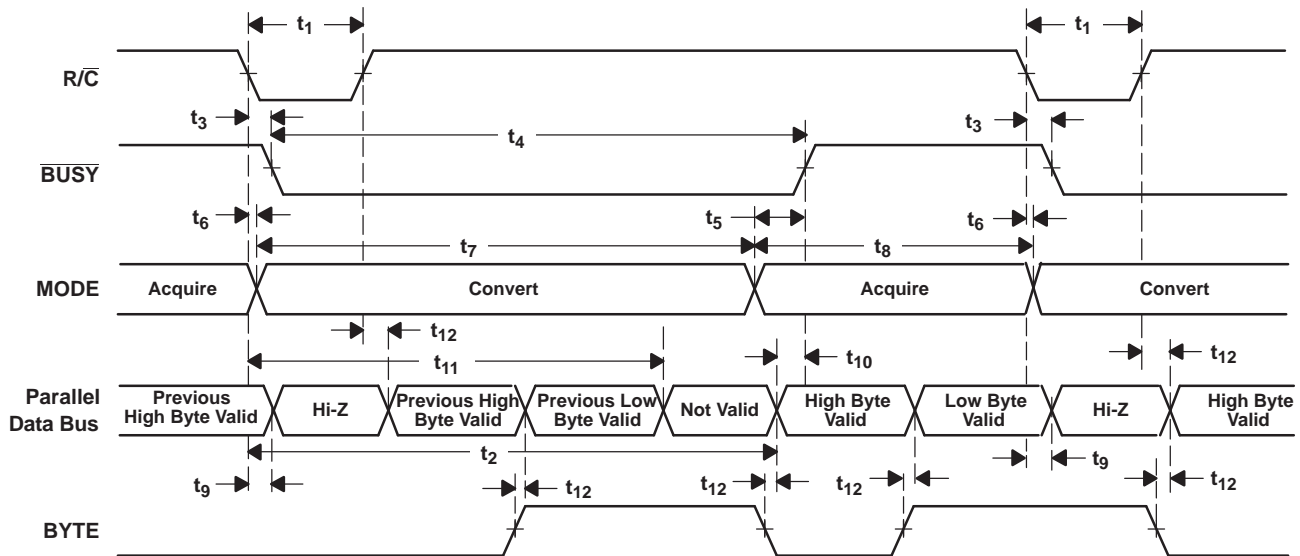
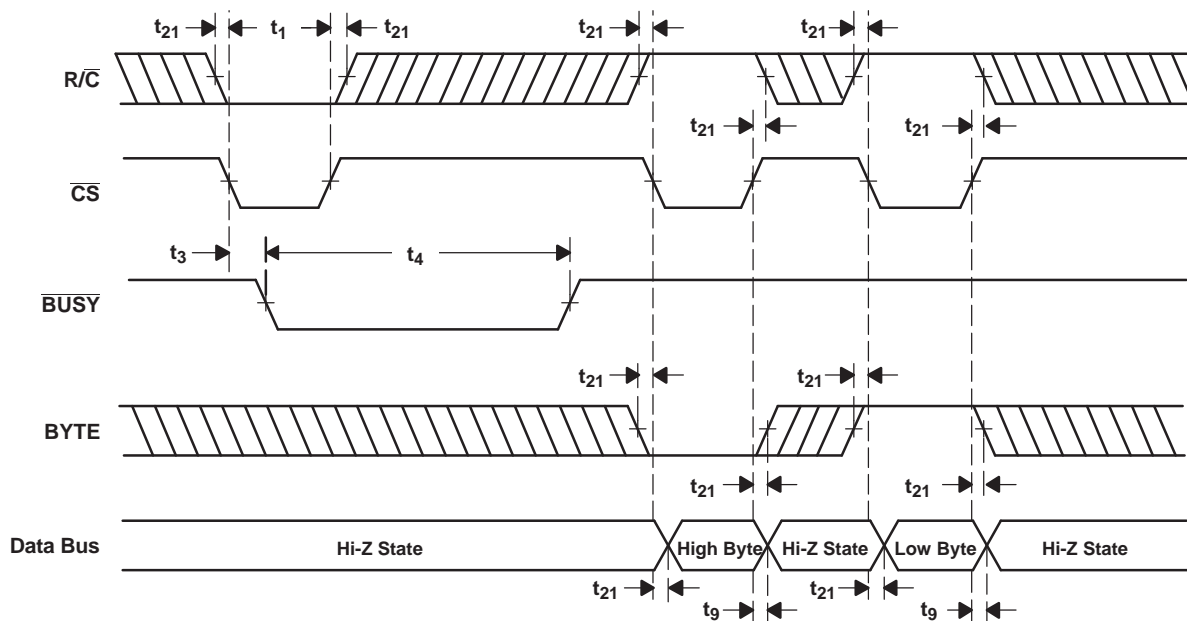

Figure 33. Conversion Timing With Parallel Output ($\overline{\text{CS}}$ and DATACLK Tied Low, EXT/INT Tied High)
Figure 34. \overline{CS} to Control Conversion and Read Timing With Parallel Outputs
The ADS8507 begins tracking the input signal at the end of the conversion. Allowing 25 μs between convert commands assures accurate acquisition of a new signal. Refer to Table 2 and Table 3 for a summary of \overline{CS} , R/\overline{C} , and \overline{BUSY} states, and Figure 33, Figure 34, Figure 35, Figure 36, Figure 37, Figure 38, and Figure 39 for timing diagrams.
(1) See Figure 33 and Figure 34 for constraints on data valid from conversion *N*–1.
After conversion N is completed and the output registers have been updated, $\overline{\text{BUSY}}$ (pin 24) goes high. Valid data from conversion N is available on D7-D0 (pin 9-13 and 15-17). $\overline{\text{BUSY}}$ going high can be used to latch the data. Refer to Table 5 and Figure 33 and Figure 34 for timing specifications.
After conversion N has been initiated, valid data from conversion $N-1$ can be read and is valid up to $12\ \mu\text{s}$ after the start of conversion N . Do not attempt to read data beyond $12\ \mu\text{s}$ after the start of conversion N until \overline{BUSY} (pin 24) goes high; this may result in reading invalid data. Refer to Table 5 and Figure 33 and Figure 34 for timing constraints.